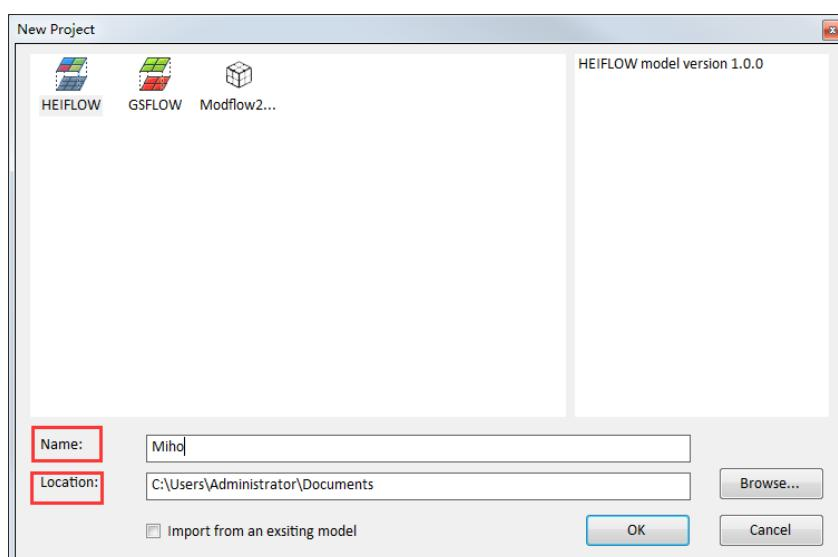

Figure 4-1. New project dialog
1. Select File -> New Project from the main menu bar. In the prompted dialog entitled “New Project”, input “Miho” in the textbox next to Name and specify a Location (“C:\Users\Administrator\Documents”) to store all files needed for HEIFLOW model run (Figure 4-1).